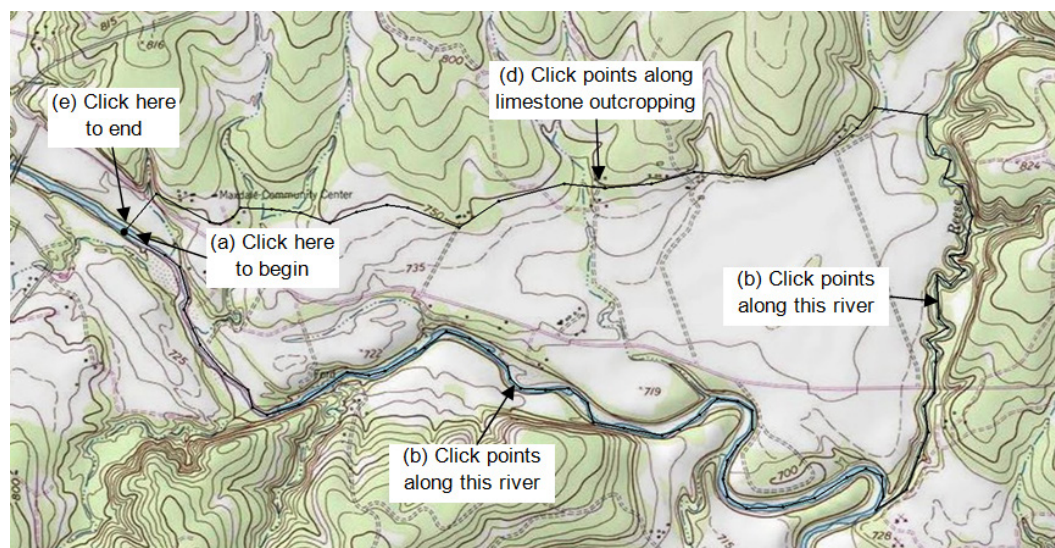

Figure 2. Creating the boundary arc.
3. Begin the arc by clicking once on the left (west) side of the model at the location shown in Figure 2.
4. Create the arc by proceeding around the boundary of the site in a counter-clockwise direction and clicking on a sequence of points around the boundary. Don't worry about the spacing or the exact location of the points; just use enough points to define the approximate location of the boundary. The boundary on the south and east sides of the model should coincide with the rivers. The boundary along the top should coincide to the limestone outcropping as shown in Figure 2.